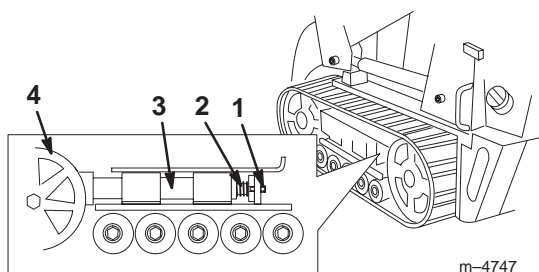

Figure 1
3. Remove the locking bolt and nut (Fig. 1).
4. Using a 1/2 in. drive socket, release the drive tension by turning the tensioning screw clockwise (Fig. 1 and 2).